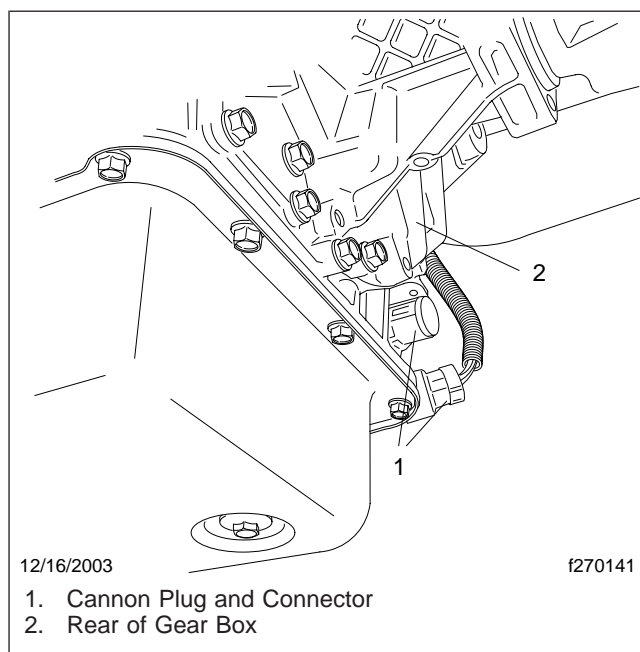

Fig. 7, Cannon Plug
- 8.2 Disconnect the cannon plug on the right-hand side of the gear box just above the oil pan. See **Fig. 7**.